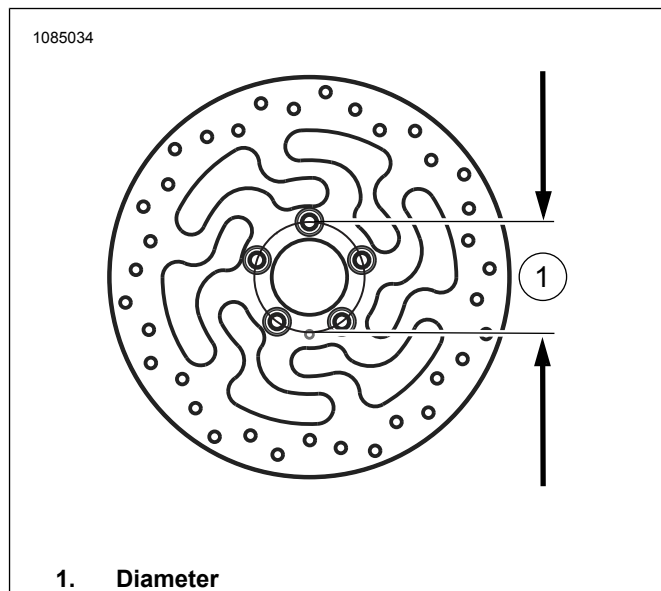

Figure 4. Disc Mounting Hole Diameter
- a. See Figure 4. If front brake disc diameter does not measure 3.25 in., discard discs.